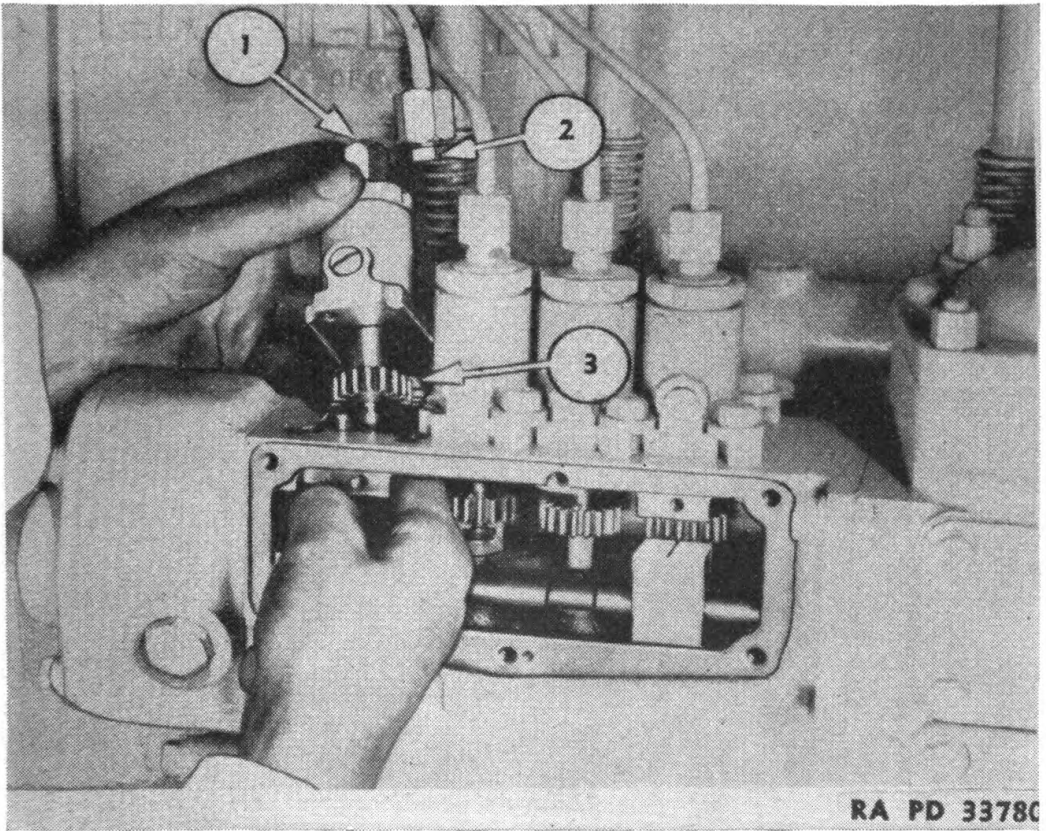

FIGURE 59.—Pump removal.
a. *Pump removal.*—The end pumps (fig. 59) may be removed from the pump housing without disturbing the other pumps, but neither center pump should be removed until the end pump next to it has been taken out.
(1) After cleaning the top of the housing and around the inspection plate, disconnect fuel injection lines from the pumps and immediately cap the openings with covers (1) and (2).
(2) Remove inspection plate and then the coupling that fastens the rack to the slide bar.